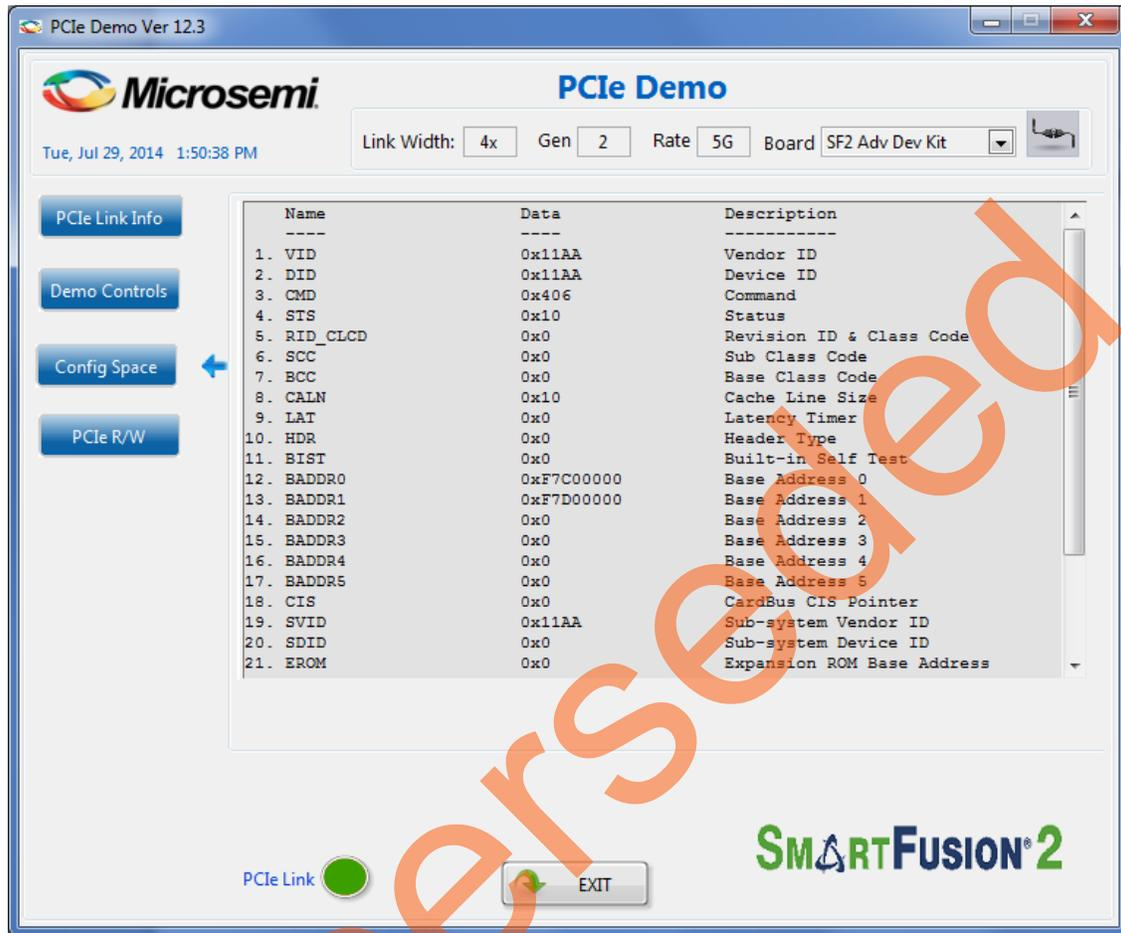

Figure 23 • Configuration Space
- Click **Config Space** to read details about the PCIe configuration space. Figure 23 shows the PCIe configuration space.